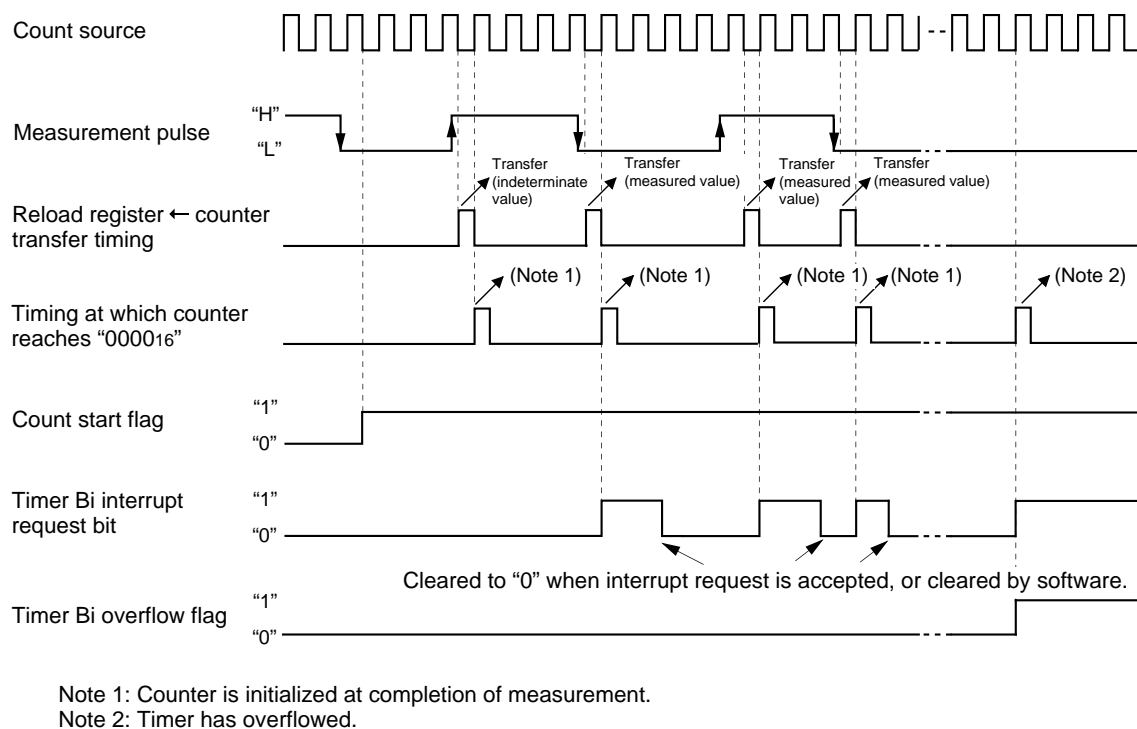

Figure 1.15.21. Operation timing when measuring a pulse width
1.15.20 shows the operation timing when measuring a pulse period. Figure 1.15.21 shows the operation